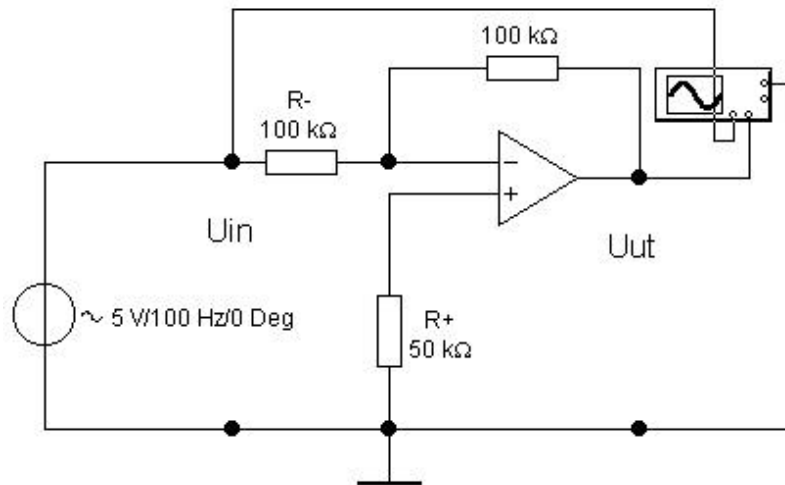

Figure 4.5
c) Change the circuit to the one shown in Figure 4.5.